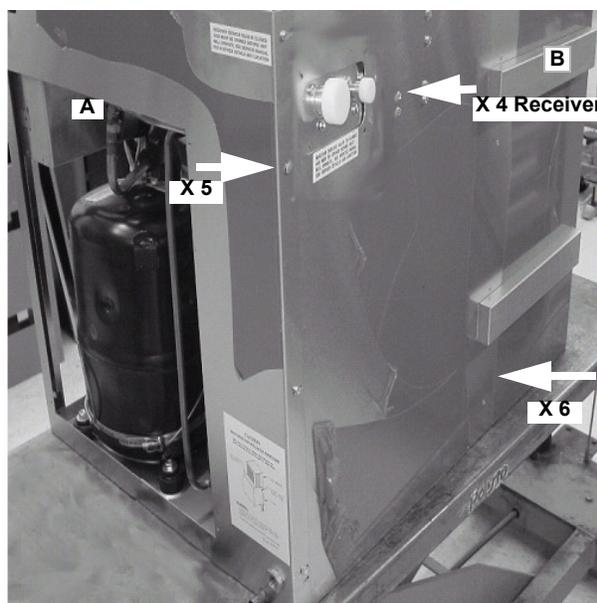

Figure 41.
Replace the evaporator extension covers (B) with 1 hex head screw each (Figure 41).